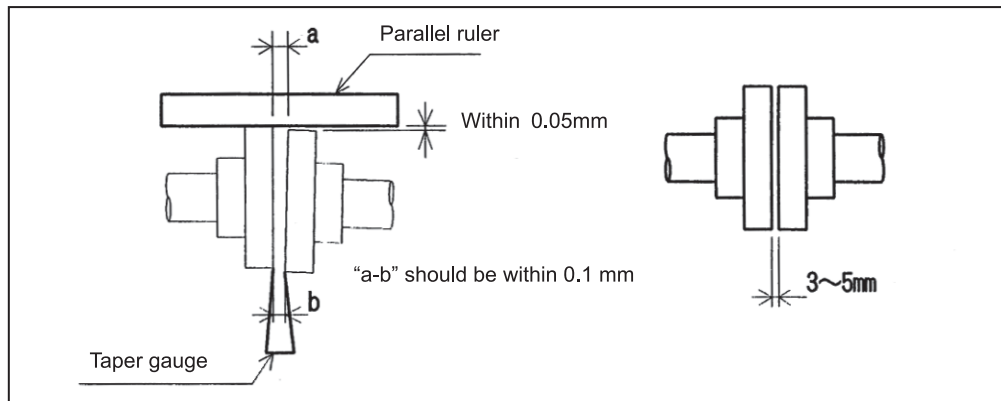

Figure 13 – How to perform alignment
- (1) Put a parallel ruler at four places on the circumference of the shaft coupling and check the gap between levels of the circumferences.
- (2) Measure the clearance between the mating surfaces of the shaft coupling using a taper gauge or a feeler gauge (see Figure 13).